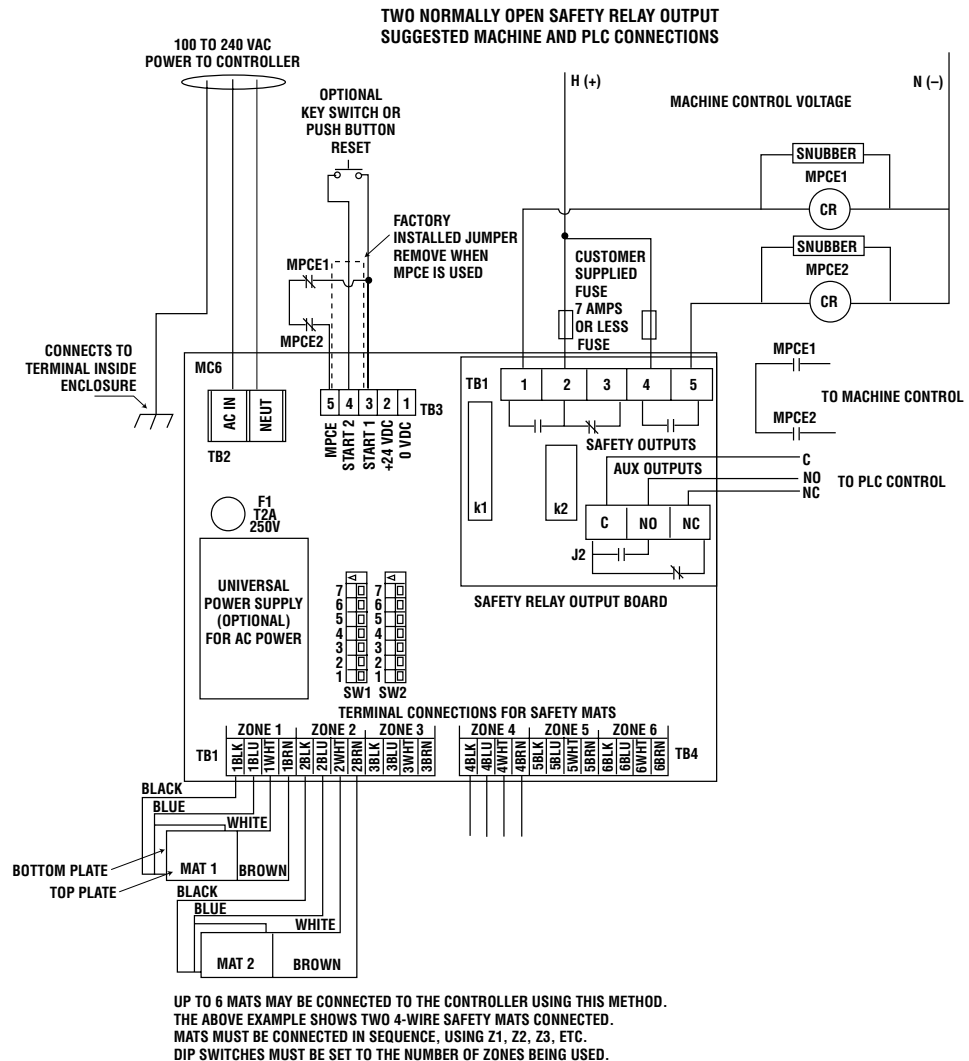
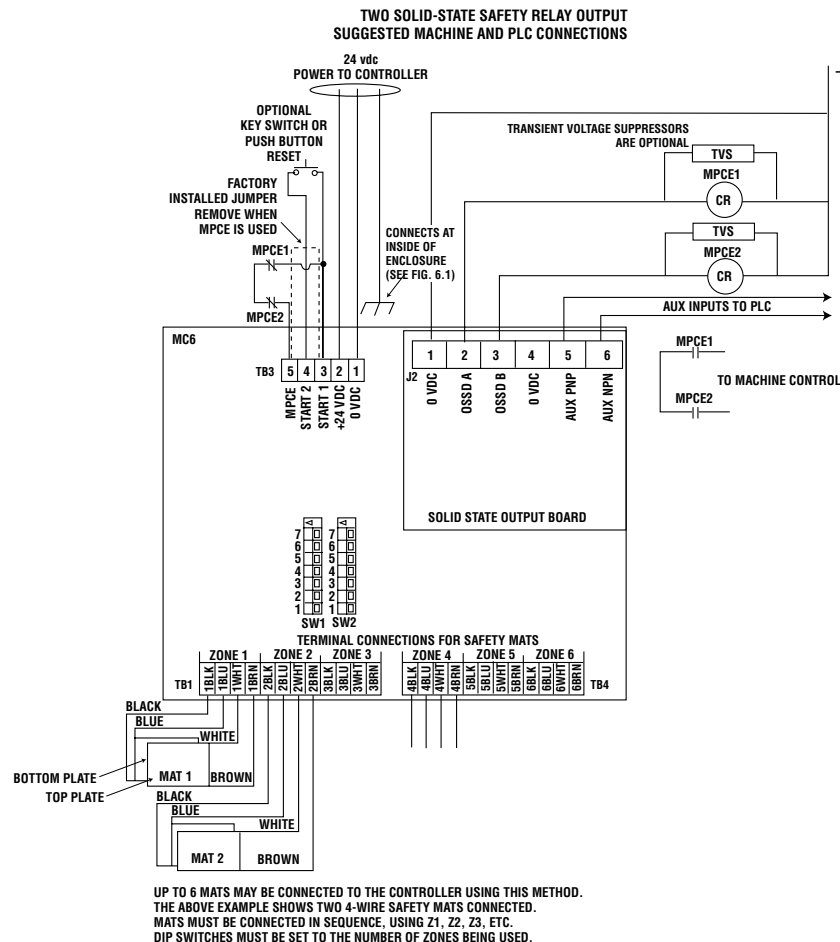

Figure 6-1 Two Normally Open Preferred Connection
Figure 6-2 Suggested Solid State Connection
Connect the remote start switch between terminals start 1 and start 2, on TB3 (See *Figure 6-1* and *Figure 6-2*).
Connect the wiring from the circuit to be monitored to start 1 and MPCE on the controller terminal block TB3 (See *Figure 6-1* and *Figure 6-2*).
At least one STI 4-wire mat must be connected. For an STI Universal safety mat the blue and black conductors are connected to the bottom electrode plate. The brown and white conductors are connected to the top electrode plate. For a single mat installation the black and blue conductors are connected to 1 BLK and 1 BLU, The brown and white conductors are connected to 1 BRN and 1 WHT. See "Figure 6.1 and 6.2 Connection Diagrams".
The two safety outputs must be connected to the two MPCE's of the guarded machine, one to each. See *Figure 6-1* and *Figure 6-2*. The relay version offers two normally open (NO) safety outputs for this purpose. One normally closed (NC) safety output may be used as an auxiliary control input. The solid-state version offers 2 current sourcing outputs (PNP). The solid-state version is compatible with STI's RM4 module and could be used as 1 input device to the RM4. The customer shall wire the system using industry accepted methods. For relay outputs, external over-current protection must be provided by the user.
The following connection scheme uses both of the normally open output relay contacts to control the machine. This is the STI recommended wiring method. See "Figure 6-1 Two Normally Open Preferred Connection" on page 13.
Figure 6-2 shows the MC6 solid-state output version connections. The solid-state safety outputs are current sources that directly power the MPCE relay coils.